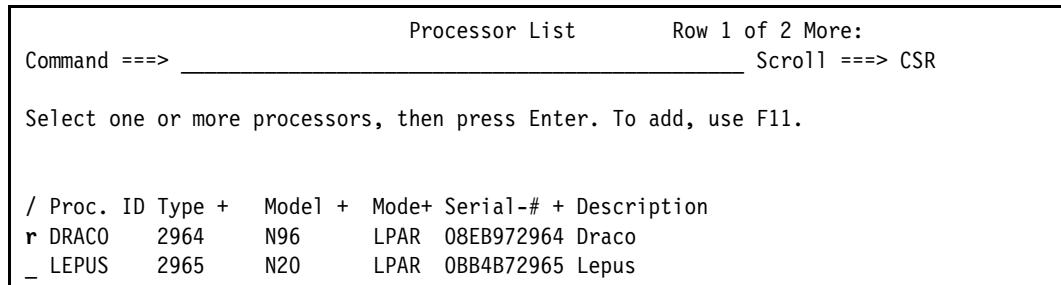

Figure 3-1 Processor List: Repeating processor
2. In the Processor List (Figure 3-1), enter **r** (for repeat) next to the 2964 that you want to upgrade and press **Enter**.